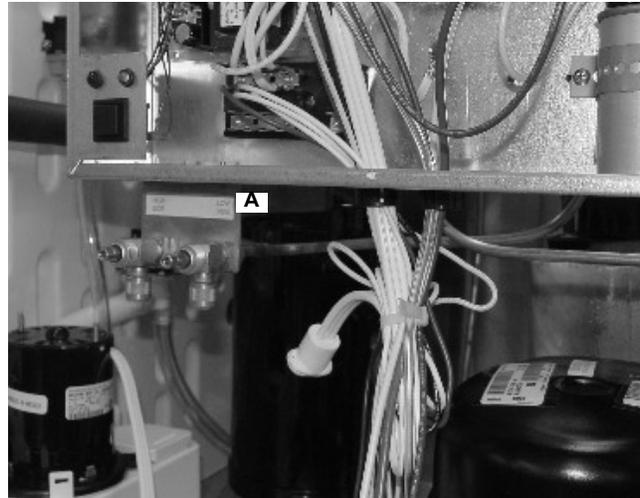

Figure 16.
14. Remove the 2 screws connecting the service valve bracket (A) to the control box (Figure 16).